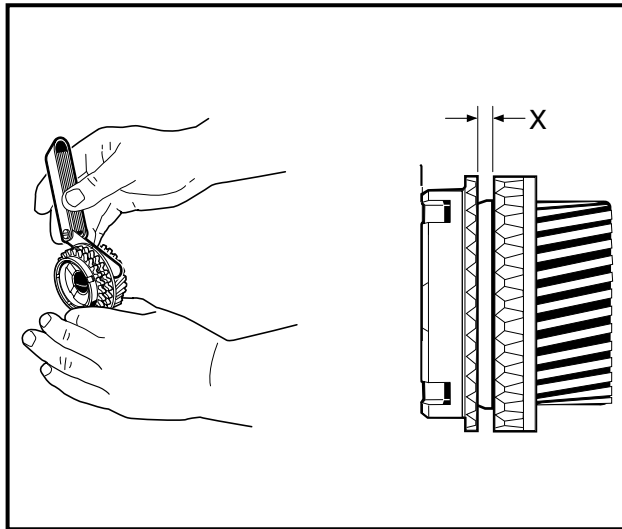

Figure 19-26 Synchro. Ring
5. Using a feeler gauge, measure the distance X at several points around the assembly. The synchro ring should be replaced when X is 0.02 inch (0.5 mm) or less (**Figure 19-26, Page 19-15**).